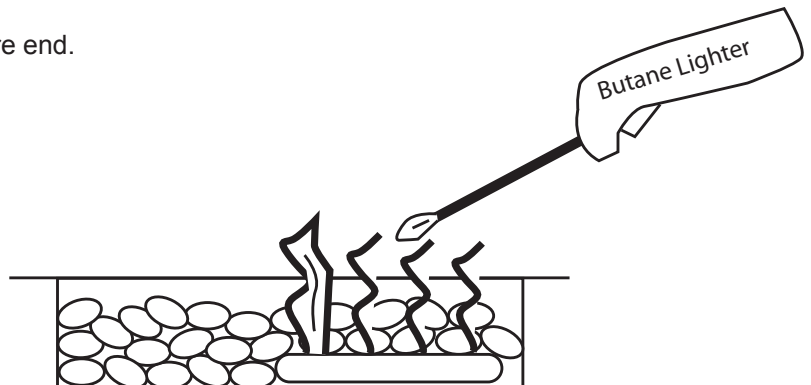

Fig. 11 Lighting fire pit with lighter
2. Light a long match or butane lighter and hold it near the burner (see fig. 11).